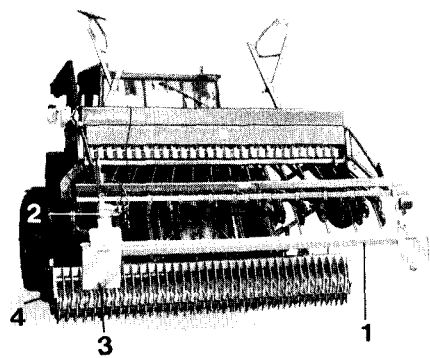

Fig. 34
- The backward facing tines of the extra-coverage harrow must be equipped with the traffic security board (Fig. 34/1 = option). On this traffic security board also two light carriers are mounted to which the rear lights (Fig. 34/2) and the lower positioned reflectors (Fig. 34/3) are fixed. Also here the distance of the reflectors from the ground must not exceed 900 mm.
- The height of the upper edge of the rear lights (Fig. 34/2) to the road must not exceed 1,550 mm. The distance must also be maintained if the seed drill is used in combination with an AMAZONE System "Liftpack" (Fig. 34).
If the seed drill is operated in combination with an AMAZONE power harrow, the side dam levellers (Fig. 34/4) of the power harrow must be folded into transporting position (please refer to the instructions of the RE-power harrow).